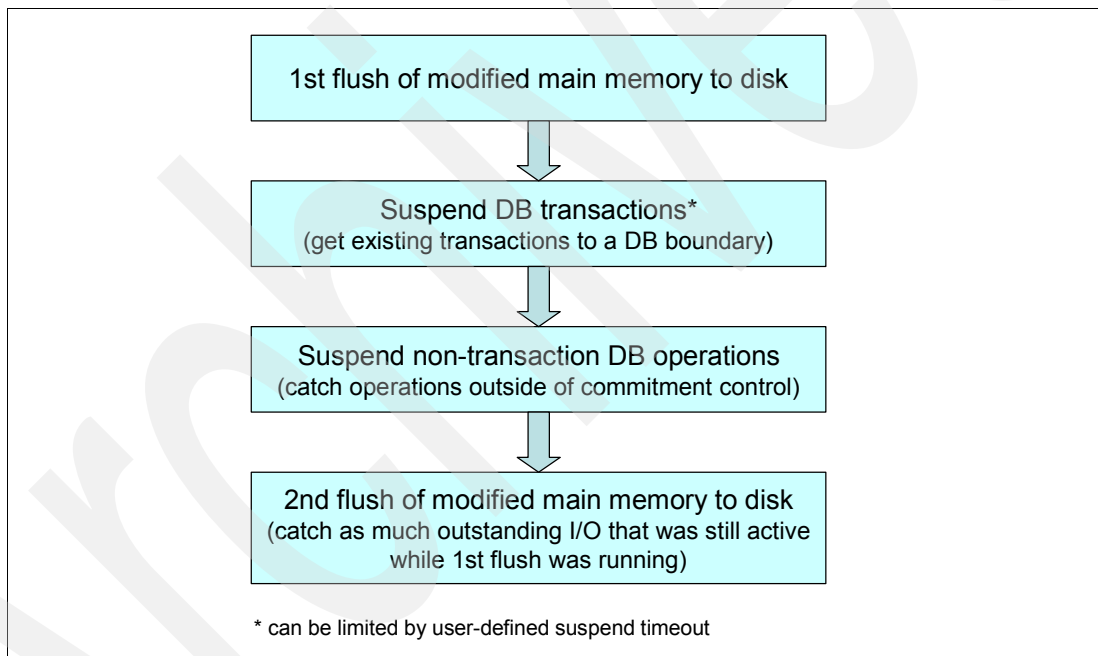

Figure 15-1 Quiesce for Copy Services two-phase flush process flow
When invoking the quiesce for Copy Services function, the flush of modified main memory content is internally performed within a two-phase flush to make this function very efficient with limiting the time required for suspending the I/O while paging out (destaging) the data modified since the first flush (see Figure 15-1).
- ▶ **Option** (OPTION): Mandatory parameter to specify either to suspend, resume or force writes to the selected ASP device. The force writes option only triggers the first flush operation of the four phase quiesce function shown in Figure 15-1 without any suspend actions.